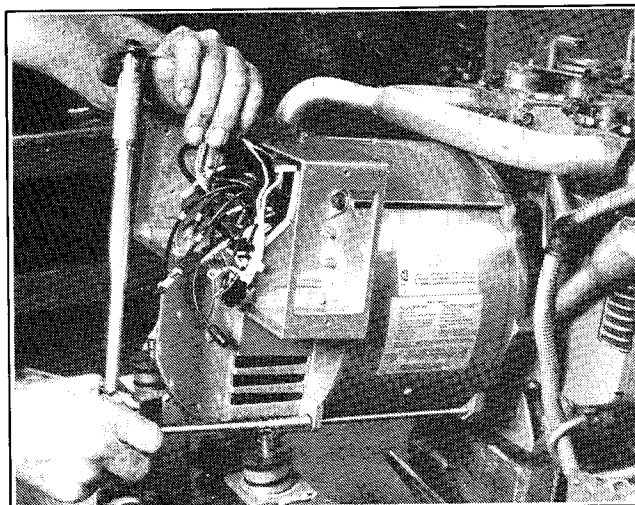

Figure 8-17. Torquing Over-Bolts
4. Slide stator leads through opening in end bracket and use a plastic hammer to install end bracket to stator. Align end bracket top edge parallel with exhaust manifold. Replace four over-bolts securing end bracket and stator to generator adapter, see Figure 8-17. Torque over-bolts to 260 in. lbs. (7.9 Nm). Replace vibro-mount rubber caps and springs.